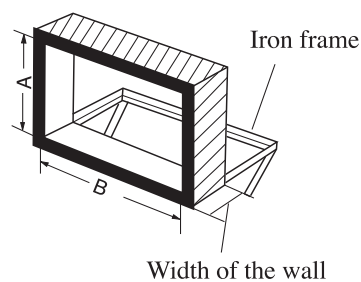

Fig. 4
1. Make the wall hole or window hole (see Fig. 4)